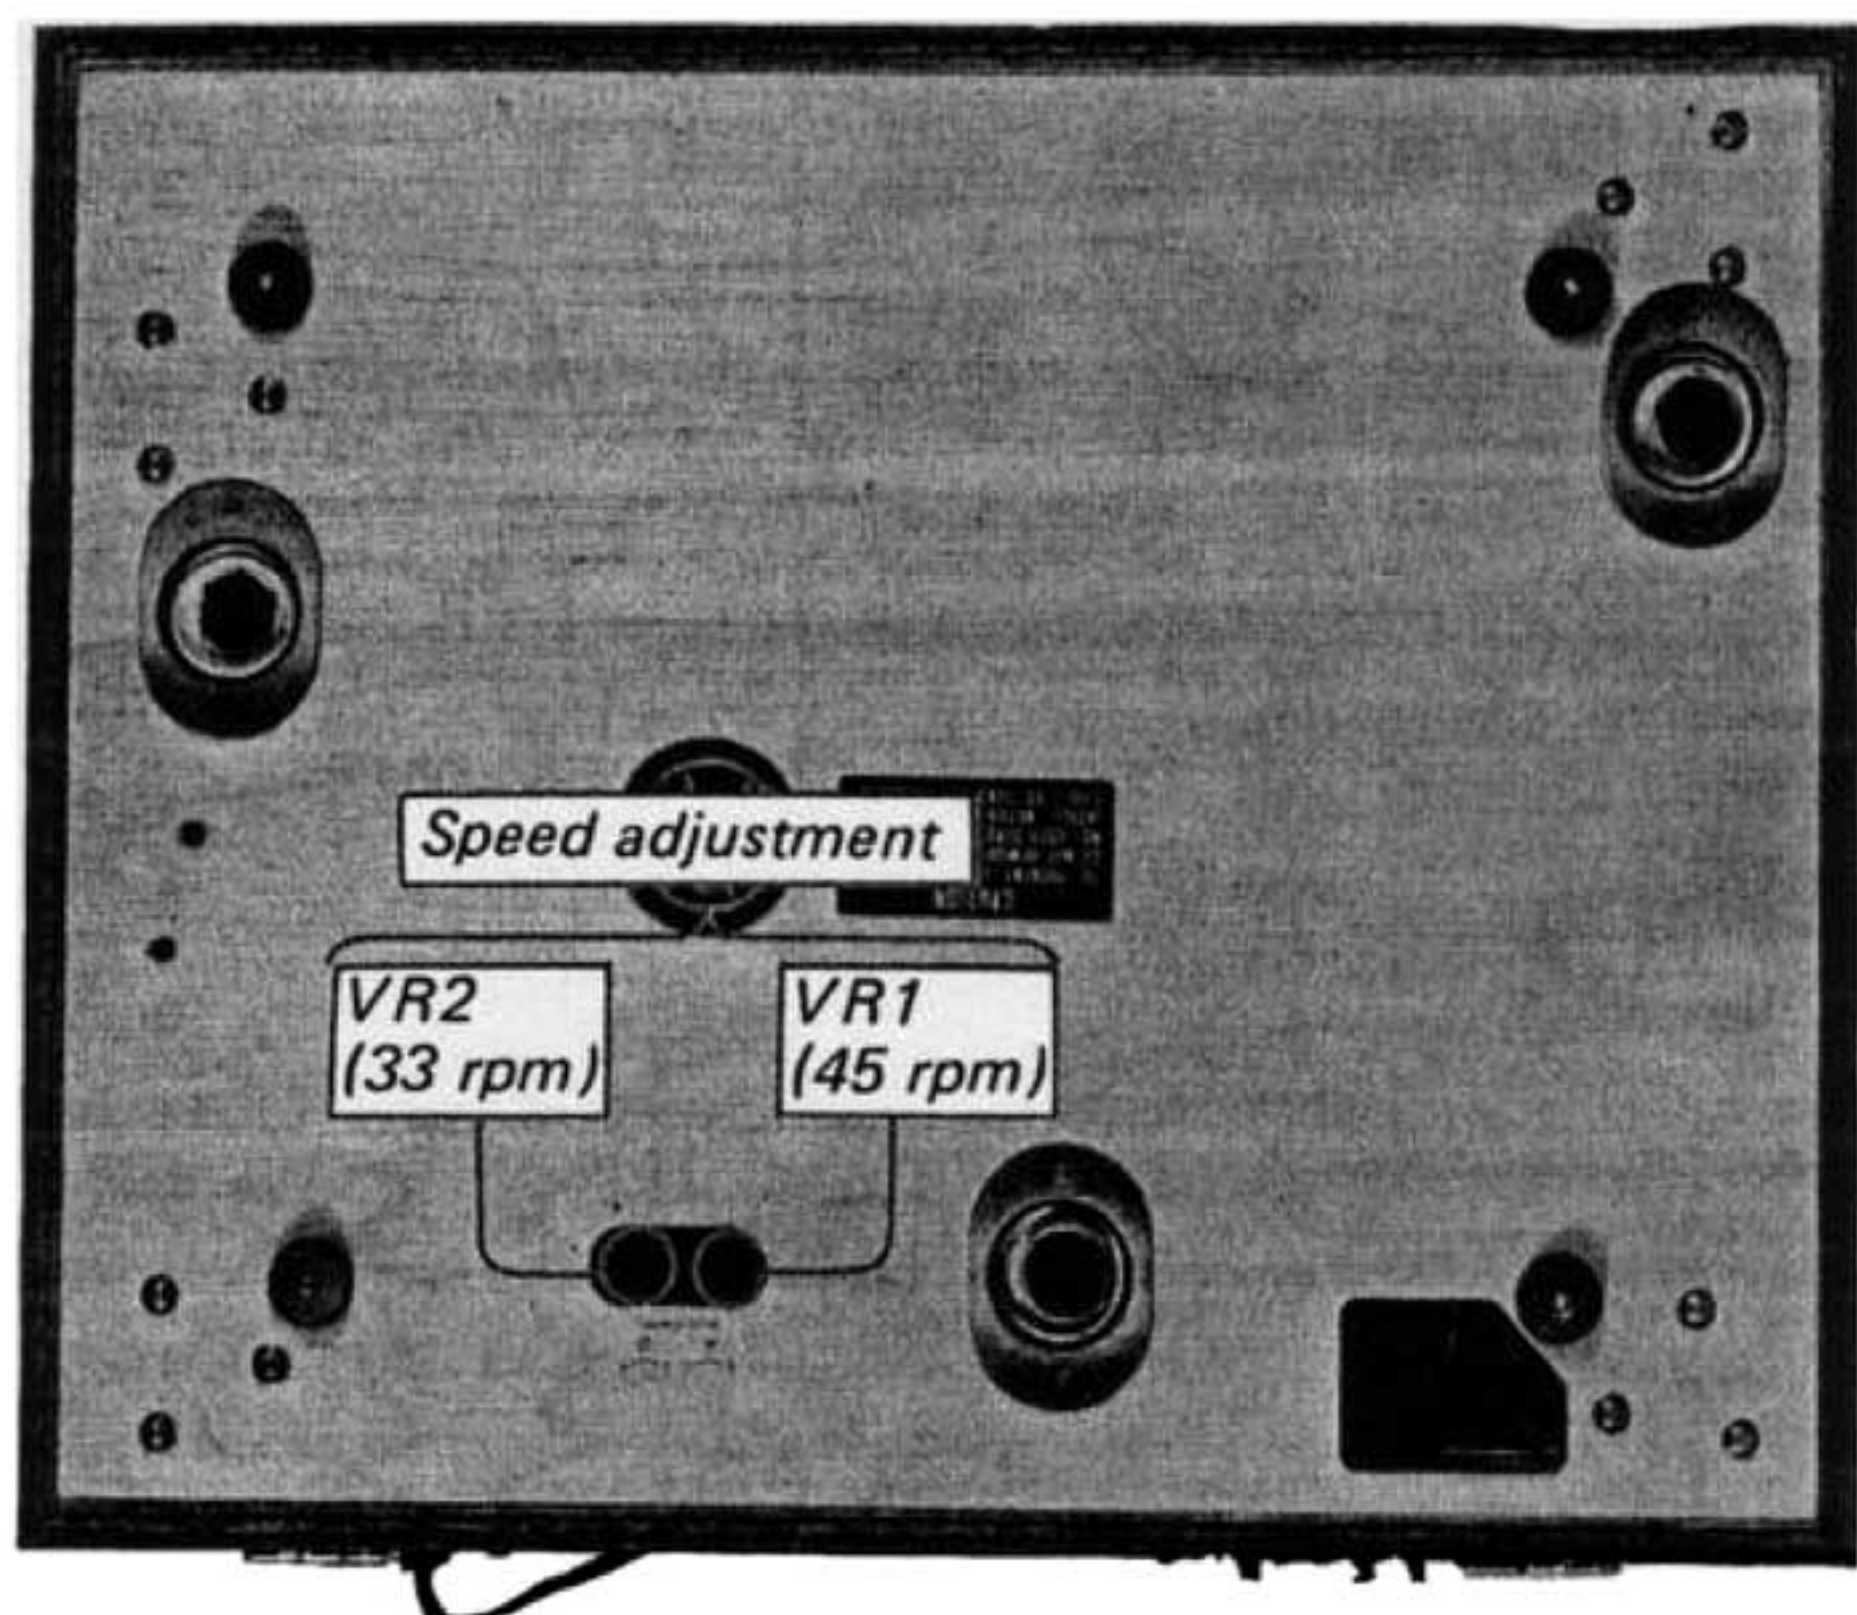

Fig. 3-1. Speed adjustment
3. Set the $\frac{3}{4}$ control to the 45 position and then turn adjustable resistor VR1 (See Fig. 3-1) to obtain the correct strobe indication.
4. After completing the 45 rpm adjustment, proceed to the 33 rpm adjustment as previously described, except turning adjustable resistor VR2 (See Fig. 3-1).